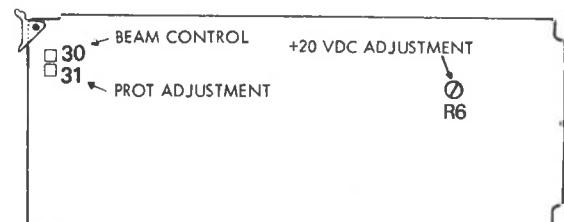

Figure 2-7. Power Supply Board Adjustments
- e. Adjust BEAM control on power supply board (Figure 2-7) until the picture wipes in evenly over entire monitor raster;
- d. Adjust BEAM control on power supply board (Figure 2-7) until picture wipes in evenly over entire monitor raster;